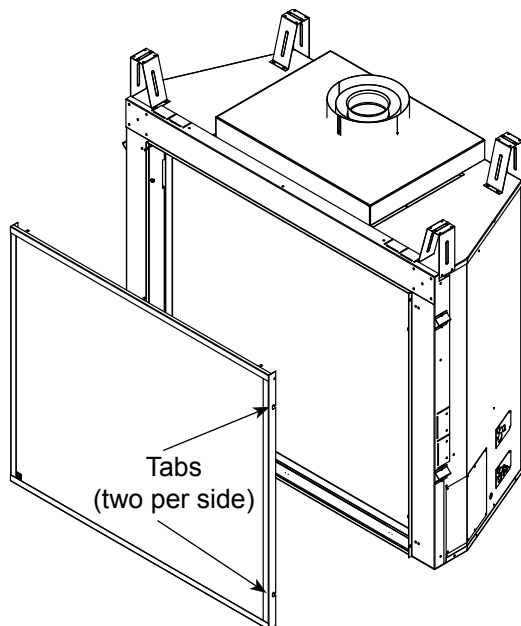
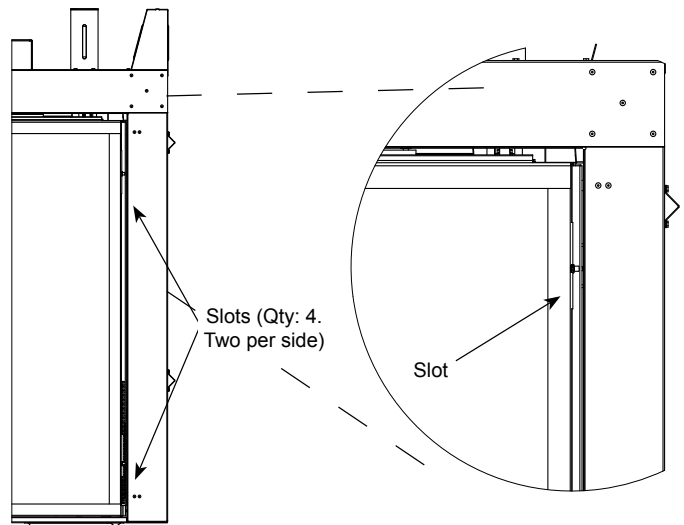

Figure 63
Figure 64
2. Align the four slots on the sides of the screen frame (two top, two bottom) *Figure 63* with the corresponding shoulder bolts on the firebox *Figure 64*.